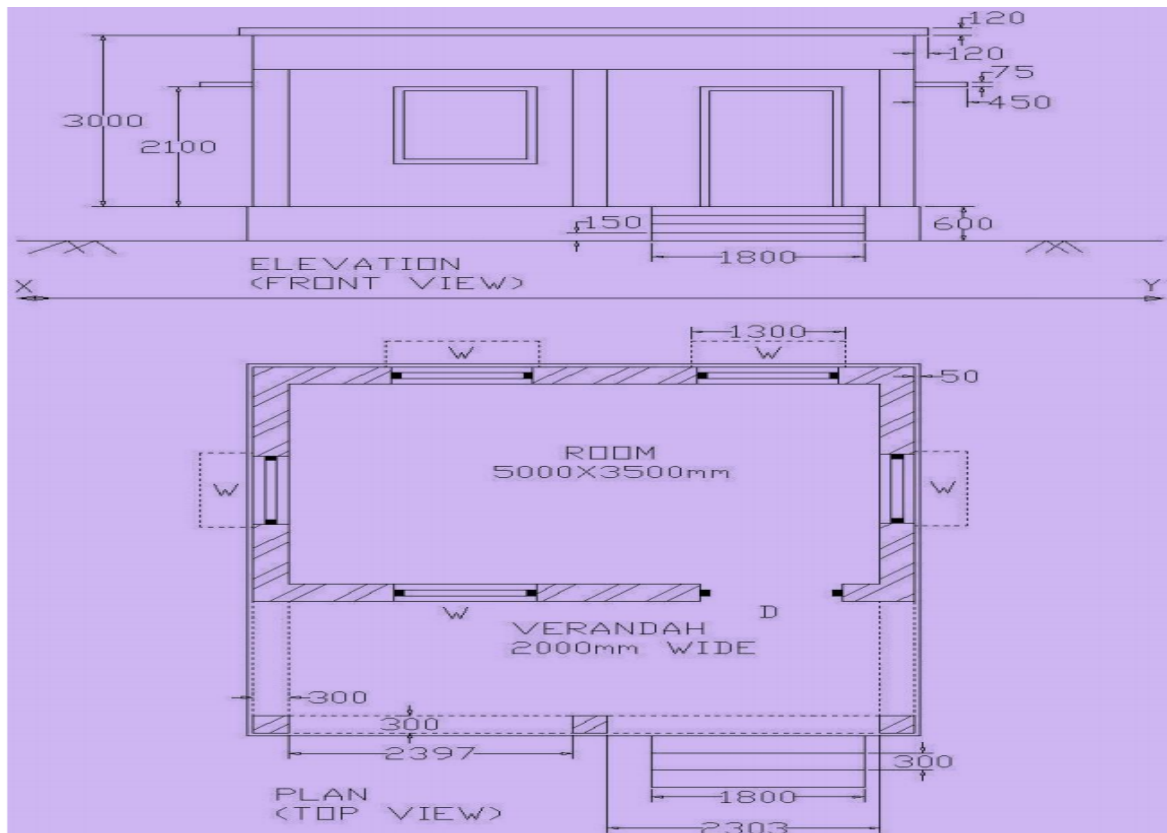

Figure 8.4 (All Dimensions are in mm)
projected on a horizontal plan (HP) keeping it below the reference line (XY) as per the principle of first angle projection which is the required plan as shown in the figure 8.4 in next page.
- Imagine that observer is standing in front of the above building and keeping the vertical plane (VP)
- portion of the building. The required elevation is as shown in the figure 8.4 in the next page.